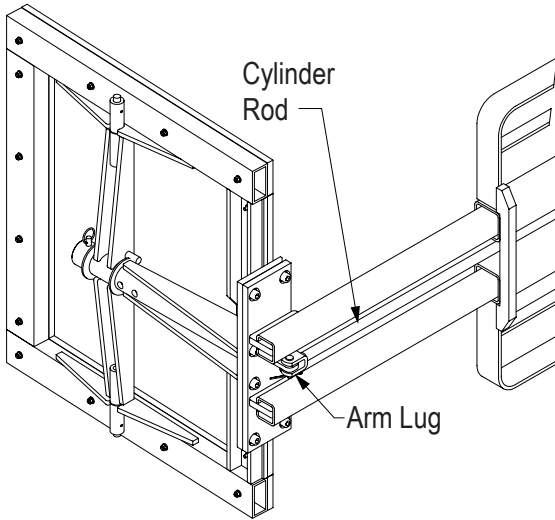

Figure 5-3, Arm Lug
2. Activate the hydraulics and extend the cylinder rod out until it is at the arm lug. Insert the pin keep and hair pin bending to lock into place. (Figure 5-3)